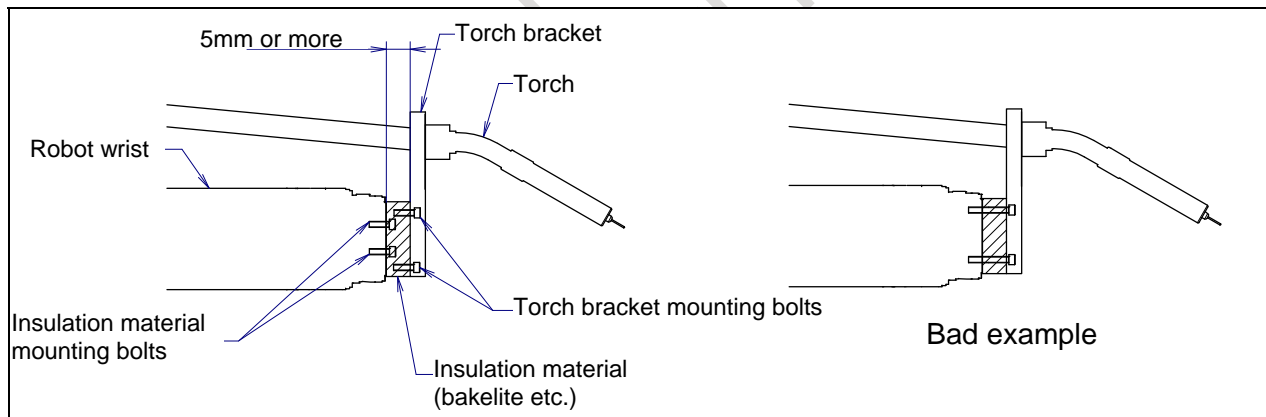

Fig. E.1 (a) Insulation at the wrist
- Insulate the end effector mounting surface. Insulation material which is inserted between the end effector mounting surface and the welding torch bracket must be different, and bolt them separately referring to Fig. E.1 (a).